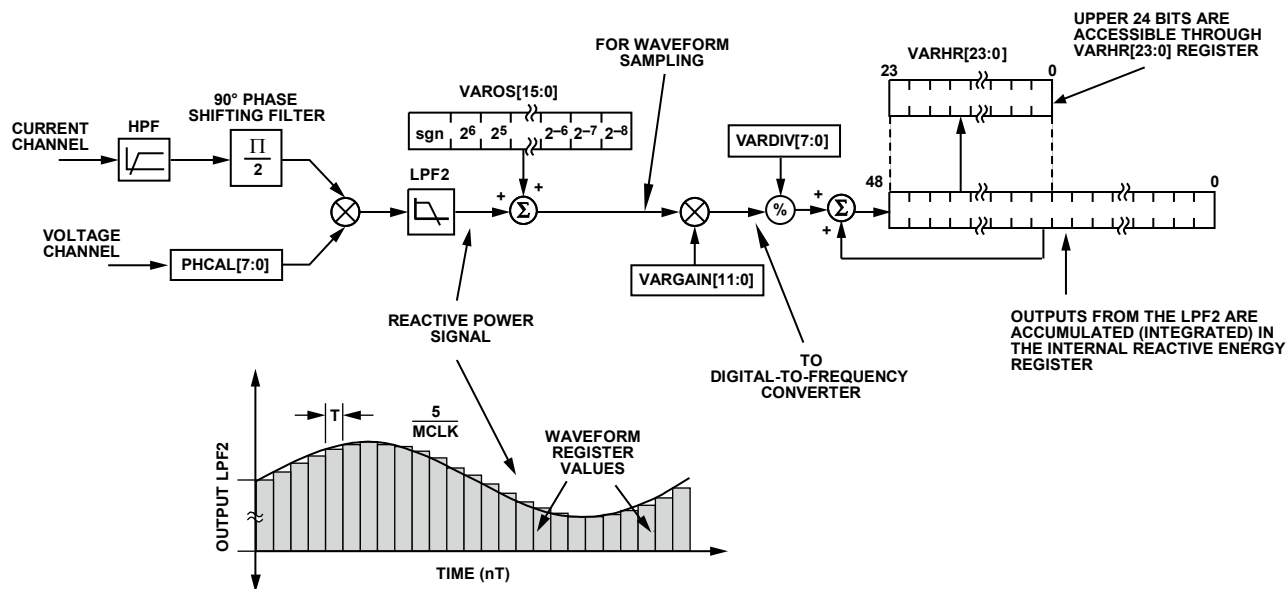

Figure 58. Reactive Energy Calculation
The instantaneous reactive power signal $q(t)$ is generated by multiplying the voltage and current channels. In this case, the phase of the current channel is shifted by 90°. The dc component of the instantaneous reactive power signal is then extracted by a low-pass filter to obtain the reactive power information (see Figure 58).
Figure 58 shows the signal processing chain for the ADE7518 reactive power calculation. As explained in the Reactive Power Calculation section, the reactive power is calculated by applying a low-pass filter to the instantaneous reactive power signal. Note that, when reading the waveform samples from the output of LPF2, the gain of the reactive energy can be adjusted by using the multiplier and by writing a twos complement, 12-bit word to the VAR gain register (VARGAIN[11:0]). Equation 23 shows how the gain adjustment is related to the contents of the watt gain register.
The ADE7518 also incorporates a reactive power offset register (VAROS[15:0]). This is a signed, twos complement, 16-bit register that can be used to remove offsets in the reactive power calculation (see Figure 58). An offset may exist in the reactive power calculation due to crosstalk between channels on the PCB or in the IC itself. The offset calibration allows the contents of the reactive power register to be maintained at 0 when no power is being consumed.
The discrete time sample period (T) for the accumulation register in the ADE7518 is $1.22 \mu\text{s}$ ($5/\text{MCLK}$). As well as calculating the energy, this integration removes any sinusoidal components that may be in the active power signal. Figure 58 shows this discrete time integration or accumulation. The reactive power signal in the waveform register is continuously added to the internal reactive energy register.
As shown in Figure 58, the reactive power signal is accumulated in an internal 49-bit signed register. The reactive power signal can be read from the waveform register by setting the WAVMODE register (0x0D) and setting the WFSM bit in the Interrupt Enable 3 SFR (MIRQENH, 0xDB). Like the current and voltage channel waveform sampling modes, the waveform data is available at a sample rate of 25.6 kSPS, 12.8 kSPS, 6.4 kSPS, or 3.2 kSPS.